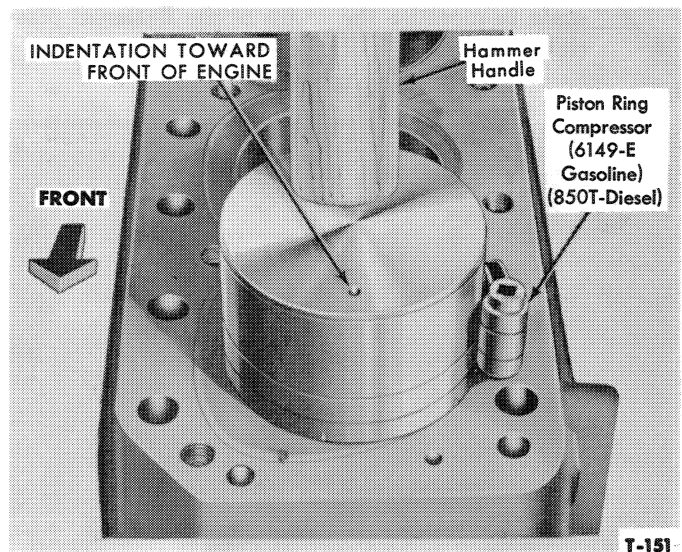

Figure 50—Installing Piston and Connecting Rod
2. Lubricate the rings on No. 1 piston with engine oil. Compress the rings with Piston Ring Compressor FLM-6149 (gasoline or LP-Gas engines) or 850-T (diesel engines), as shown in Figure 50. Install the bearing inserts in the rod if not already installed.